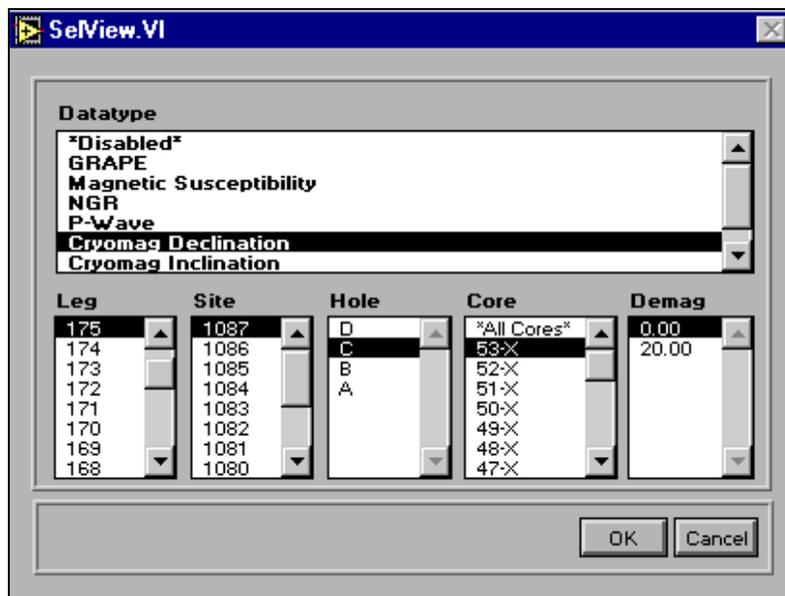

Figure 3. Selecting graphing information here.
1. Click on the **Select** button to open the "SelView" window (see Figure 3).